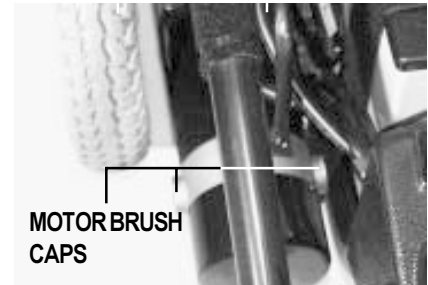

Figure 29. Motor Brushes
2. Unscrew the motor brush caps. See figure 29.